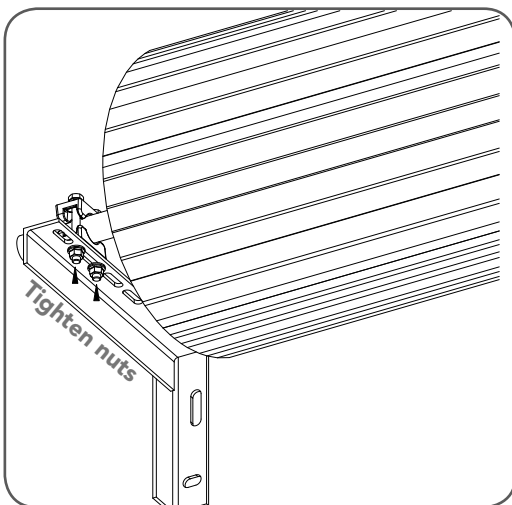

fig 06
- a. At the end opposite to where the opener will be fitted, check that the door axle is tightened to the bracket securely. (Fig. 06)